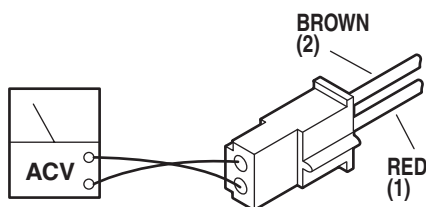

Figure 7-6. Connector CN18 Test
2. Connect CN15, disconnect CN18 (brown and red wires) and using an AC voltmeter, test the transformer output at CN18. See figure 7-6.